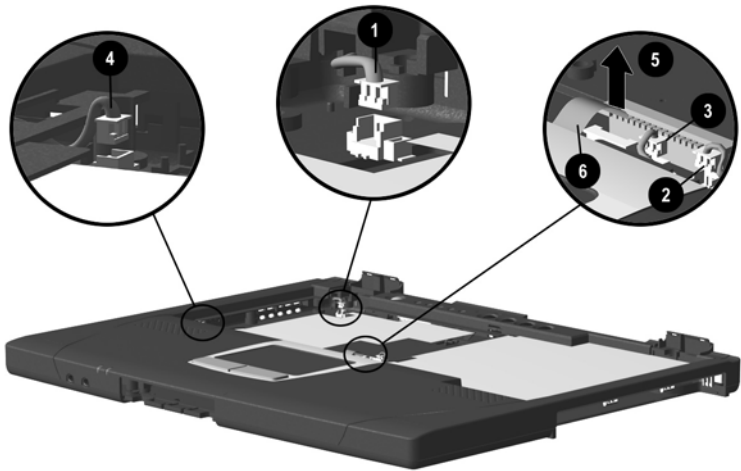

Figure 5-9. Disconnecting Top Cover Connectors
5. Disconnect the display lid switch board ❶, microphone ❷, and right ❸ and left ❹ speaker cables (Figure 5-9).
6. Release the ZIF connector ❺ to which the TouchPad cable is connected and disconnect the TouchPad cable ❻.